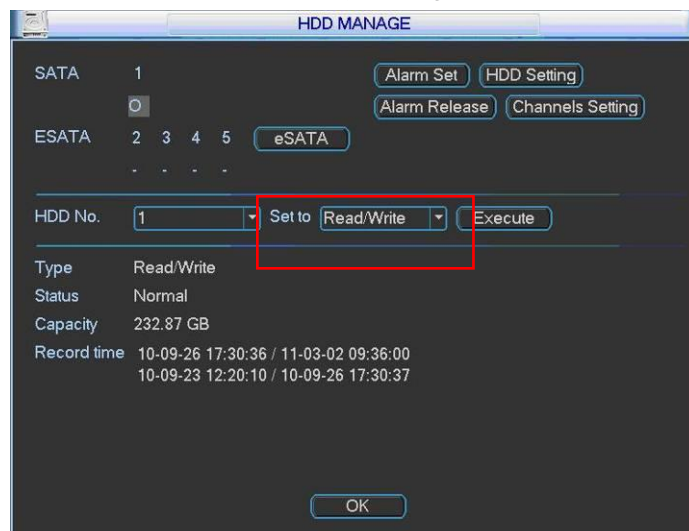

Figure 4-20
In the main menu, from Advanced to HDD management, you can set one or more disk(s) as redundant. You can select from the dropdown list. See Figure 4-20. System auto overwrites old files once hard disk is full.
- Set redundant disk(s) as read-only disk or read-write disk (Main menu->Advanced->HDD management). See Figure 4-20. System needs to reboot to get setup activated. Now you can search or playback file in redundant disk.